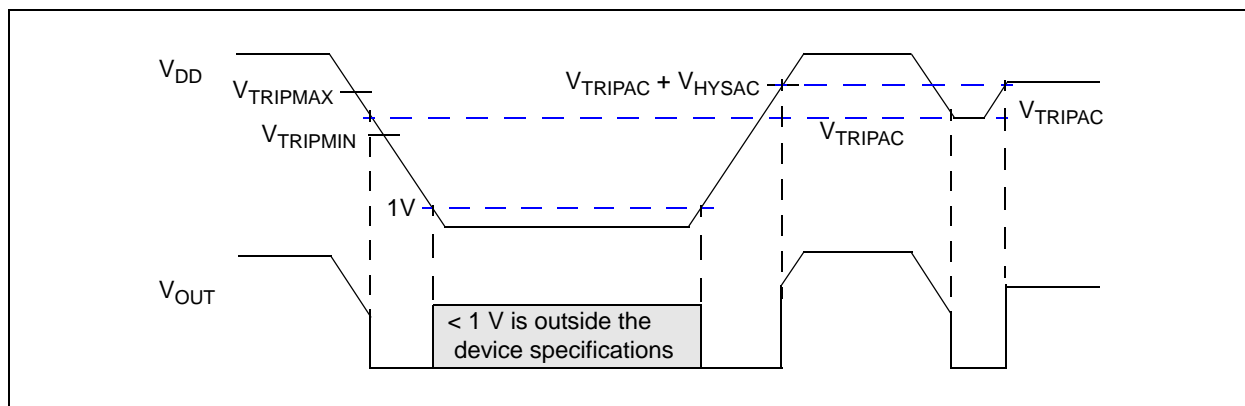

**FIGURE 4-1:** Typical Application Circuit.
**Note:** Unless otherwise indicated, all limits are specified for  $V_{DD} = 1V$  to  $5.5V$ ,  $R_{PU} = 100\text{ k}\Omega$  (only **MCP111**; see **Figure 4-1**),  $T_A = -40^\circ\text{C}$  to  $+125^\circ\text{C}$ .
**Note:** Unless otherwise indicated, all limits are specified for  $V_{DD} = 1V$  to  $5.5V$ ,  $R_{PU} = 100\text{ k}\Omega$  (only MCP111; see Figure 4-1),  $T_A = -40^\circ\text{C}$  to  $+125^\circ\text{C}$ .
Figure 4-1 shows a typical application circuit.
A 0.1  $\mu\text{F}$  bypass capacitor, mounted as close as possible to the  $V_{DD}$  pin, provides additional transient immunity (refer to Figure 4-1).